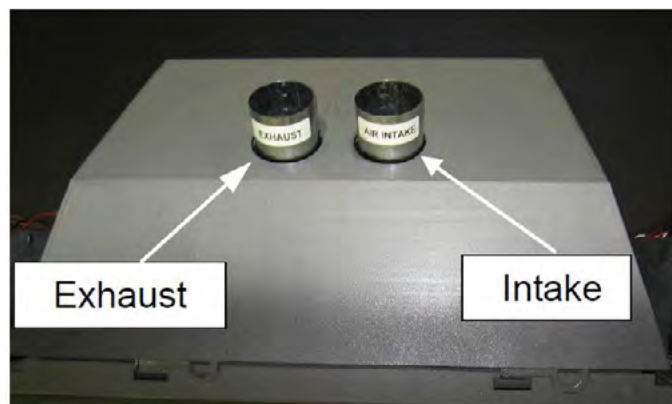

Figure 13.0.01: Intake & Exhaust as viewed from top of fireplace.
**The Air intake and Exhaust connections are marked on the gas appliance. See Figure 13.0.01.**